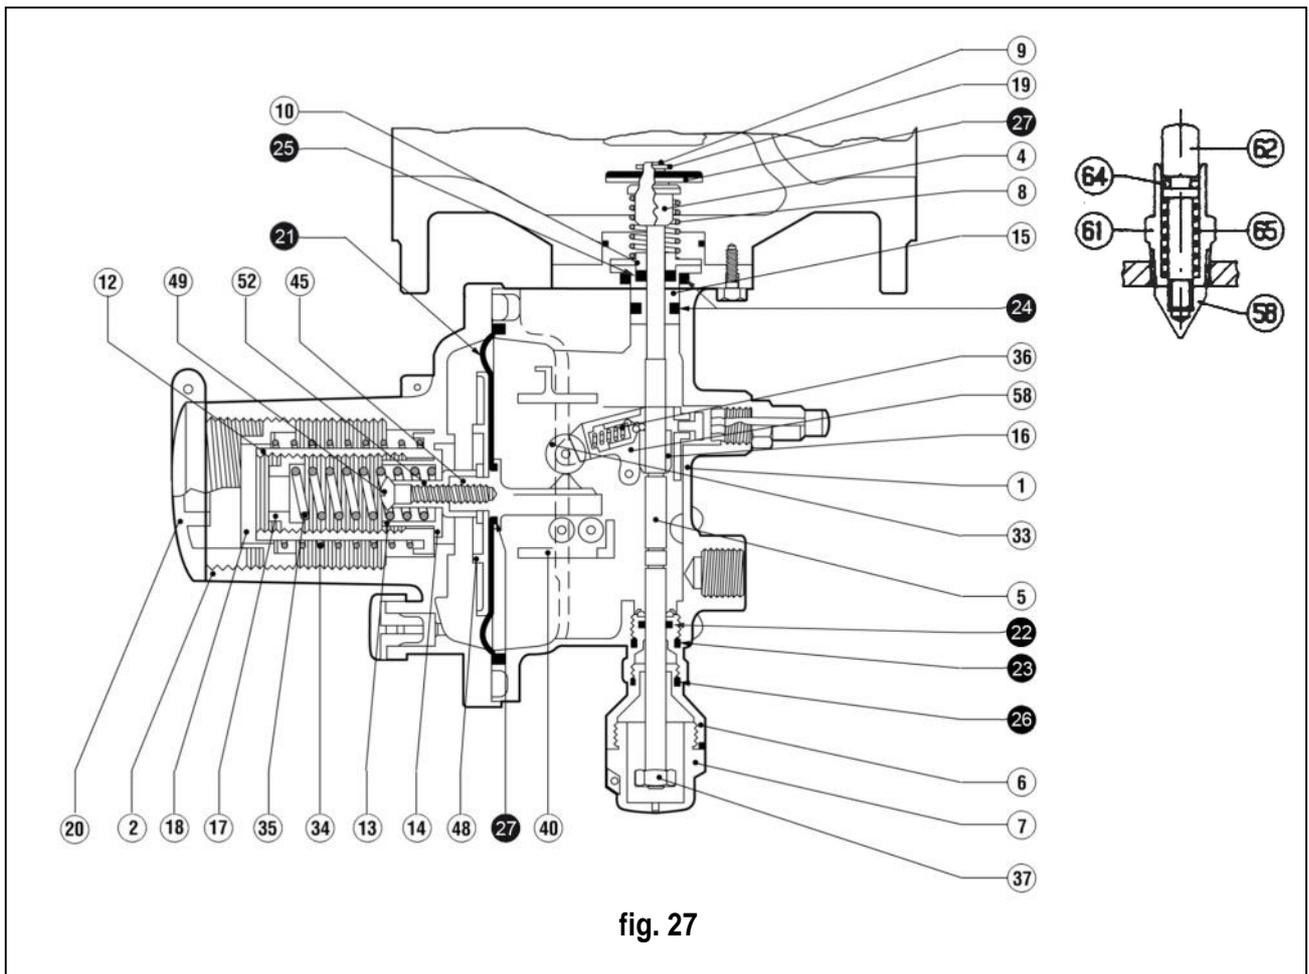

fig. 27
7.5 LA:: SLAM SHUTH VALVE (fig. 27)